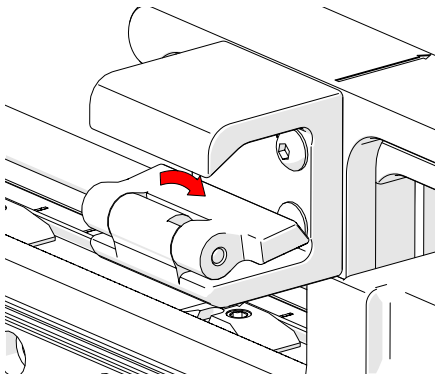
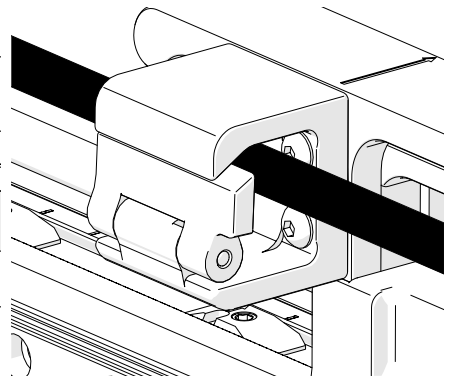

Fig. 37 - Carrier cable clip flap
Fig. 38 - Carrier cable clip
1. Push the cable clip flap down (*Fig. 37*) and insert the cables and hoses (*Fig. 38*).